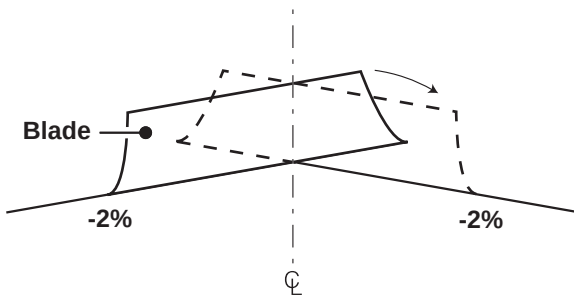

Figure 1-42. Cutting Edge on Crown Road
- On a crown road, System Five-3D prevents the cutting edge from undercutting at the centerline. Once the center of the blade passes the centerline, the cutting edge flips to the other side of the slope (Figure 1-42). The location of the sensor does not affect this performance.